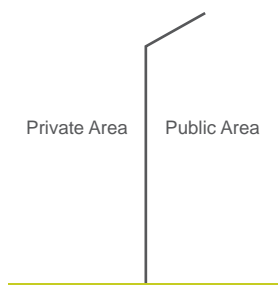

Fig.1
- To keep people out of a private area the posts should be angled out over (Fig.1).